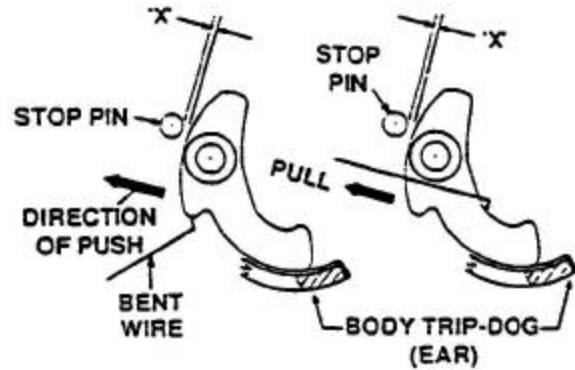

FIGURE 4. "X" VALUE MEASUREMENT
- 1.4.4 Insert feeler gage between the stop pin and flyweight to determine clearance ("X" of Figure 4) while the flyweight is forced outward. Maintain constant outward force on the flyweight while measuring clearance to ensure accuracy.